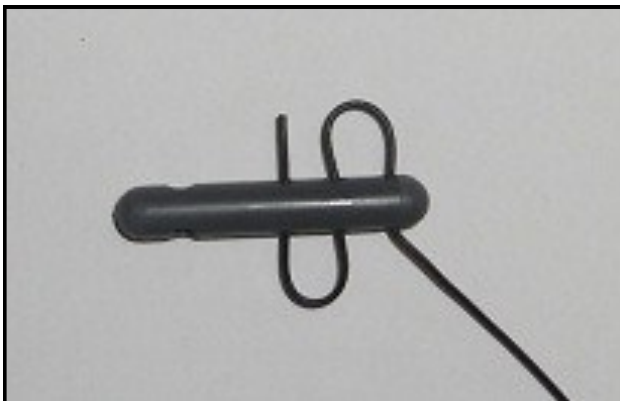

Fig. 1
6. Once you are satisfied with the overall length of the radiator, lace the end of the wire through the end insulator as shown in Fig. 1.